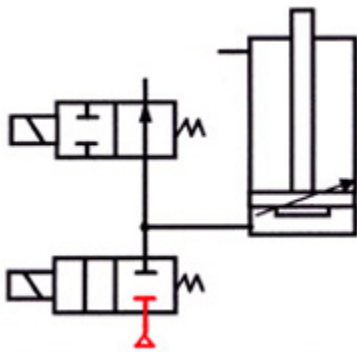

Figure 8-26. Operating a single-acting cylinder with two 2-way valves.
Figure 8-26 shows a circuit that operates a single-acting cylinder with 2-way valves. One (NO) and one (NC) 2-way directional valve piped to the cap end cylinder port allows fluid to enter and exhaust from it. Actuating both operators simultaneously extends the cylinder. According to valve size and inlet air flow, the cylinder might not extend if just energizing the (NC) valve. If the cylinder extends with only one valve actuated, it would be slow and waste a lot of air.